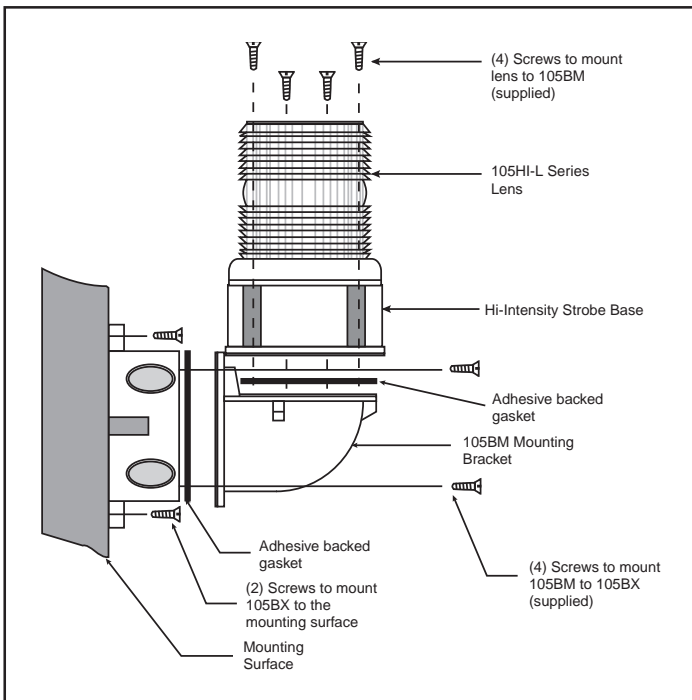

Figure 1. Mounting Cat. No. 105BM Mounting Bracket
**NOTE:** When mounting using the Cat. No. 105BM mounting bracket, the Cat. No. 105BX outlet box attachment must also be used as shown in Figure 1.
- b. **Cat. No. 105BM:** Using the four supplied screws, secure the mounting bracket to Cat. No. 105BX outlet box attachment as shown in Figure 1. Attach the adhesive backed gasket to the top of the 105BM mounting bracket, being careful to line up the holes in the gasket with the mounting holes in the outlet box.
**NOTE:** It is not necessary to remove the lens from the Hi-Intensity Strobe Base to install the 105DHIST series beacons. See Figures 1, 3 or 4.
- a. **Cat. No. 105BX:** Screw the outlet box attachment to the mounting surface (Figure 1) using two screws (not supplied) suitable for the surface. Attach the adhesive backed gasket to the top of the 105BX mounting box, being careful to line up the holes in the gasket with the mounting holes in the outlet box.